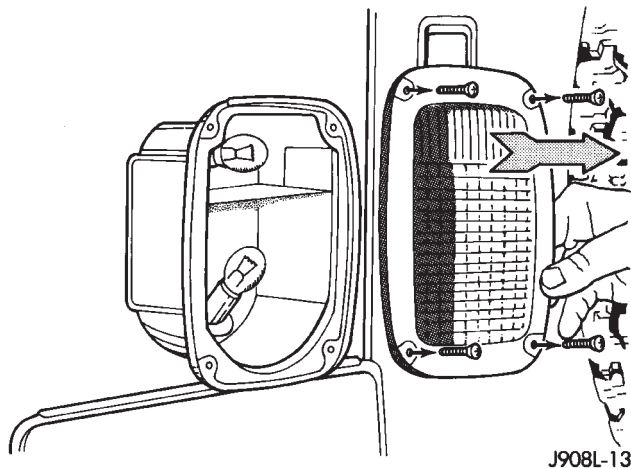

Fig. 25 Back-up/Rear Turn Signal/Tail Lamp Bulb Replacement—YJ Vehicles
(1) Remove the lens retaining screws from the tail lamp housing (Fig. 25).
(2) Separate the lens from the tail lamp housing.
(3) Remove the bulb from the lamp socket.